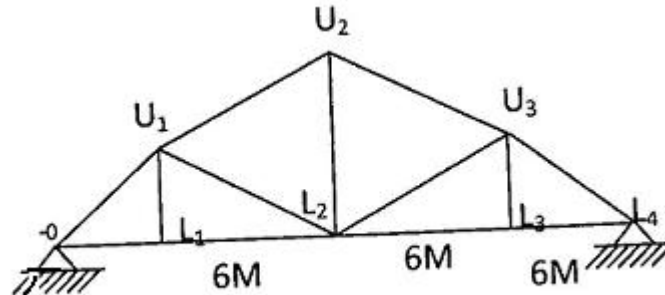

Fig. 3
- 13 Construct the influence line diagram for forces in the members U_1U_2 , L_1L_2 for the truss shown in Fig. 3. Hence calculate the forces in these members due to a dead load of 20 kN/m and moving live load of 30 kN/m which is longer than the span. Take each panel 6 m width each, members $U_1L_1 = 3\text{m}$ and $U_2L_2 = 5\text{m}$.